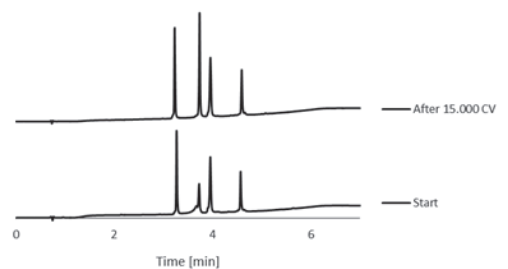

Figure 2
Chromolith® WP columns were burdened with 15,000 column volumes (CV) of water and acetonitrile containing 0.1% TFA. The chromatographic change in separation behavior is shown in Figure 2.